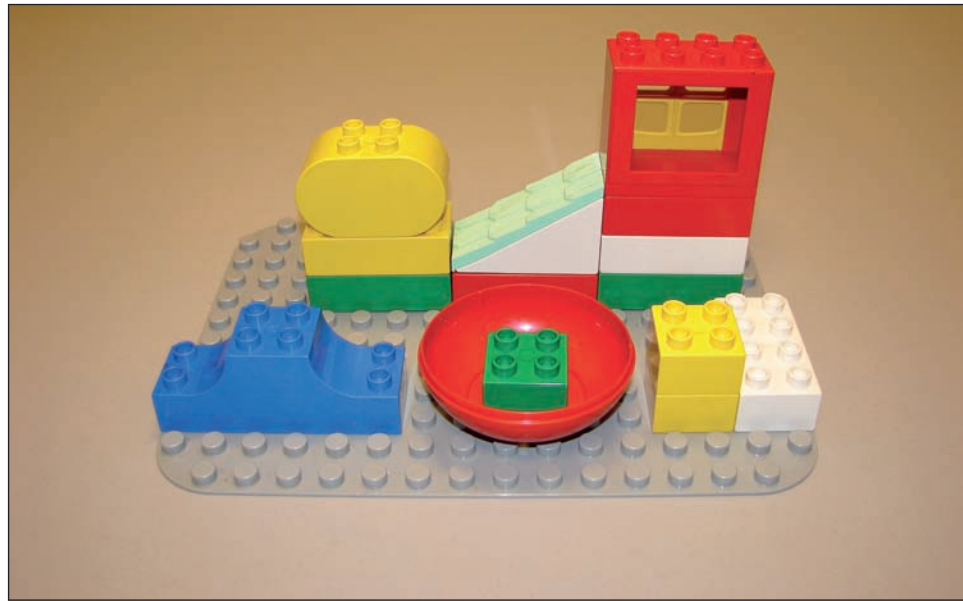

Figure 4-20
2. Connect Lego Duplo® blocks in random arrangements and sketch their top, front, and side views to strengthen your understanding of orthographic drawing (Figure 4-20). Use differently shaped blocks for true length and foreshortened lines. Sketch 3-D pictures of the arrangements and apply different colors to the top, front, and side views to clarify what features go in which view.